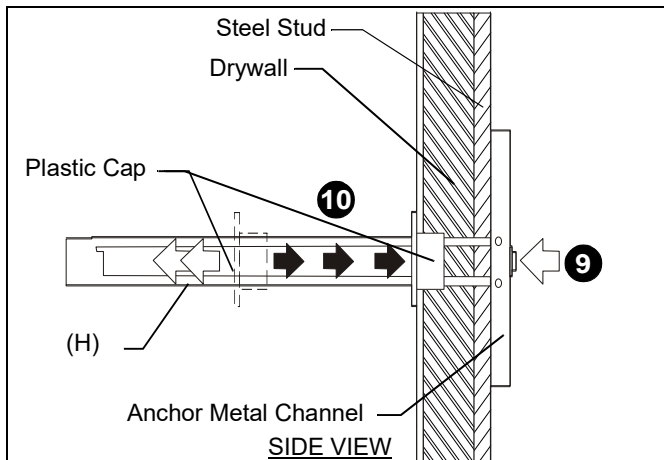

Figure 4
9. (Drywall/steel stud only) Holding plastic straps on anchor (H), pull anchor away from wall until channel rests flush behind wall making sure anchor is positioned vertically on stud. (See Figure 4)
10. (Drywall/steel stud only) Slide plastic cap on anchor (H) towards wall until flange of cap is flush with wall. (See Figure 4)